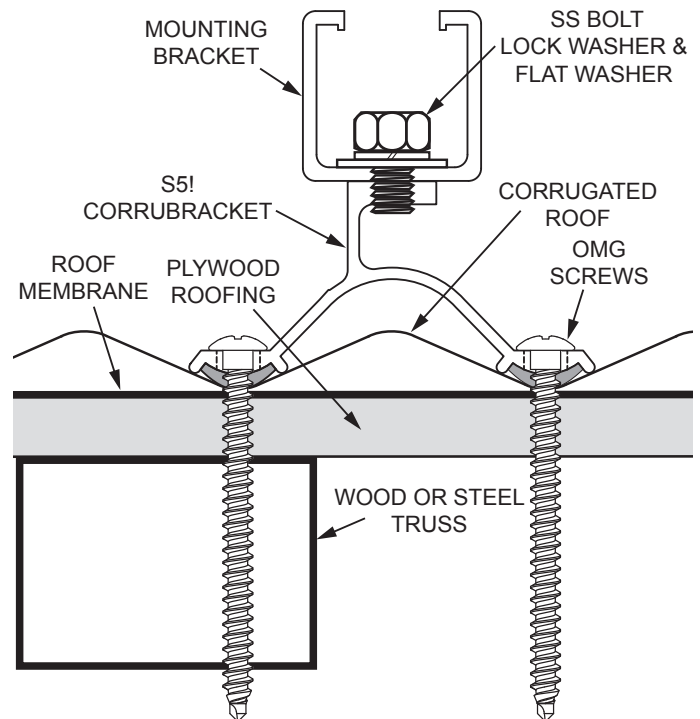

Figure 5.
5. Install the solar collector mounting bracket to the corrugated metal roof bracket with the included M10-1.50 x 1" SS hex bolt. See Figure 5.